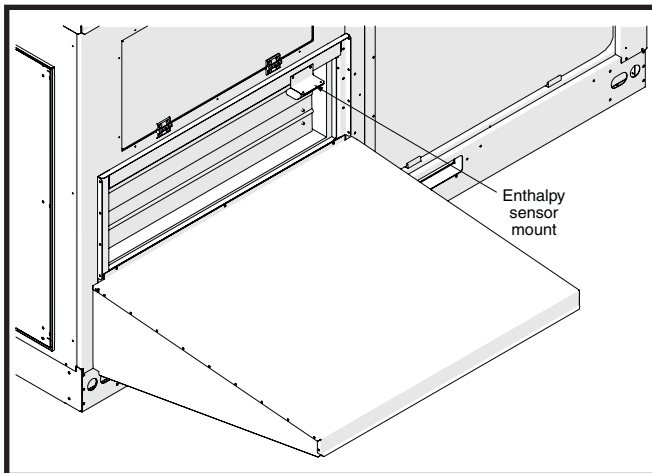

Figure 6. Exhaust Hood Top Installed
- Install exhaust hood top. See Figure 6.